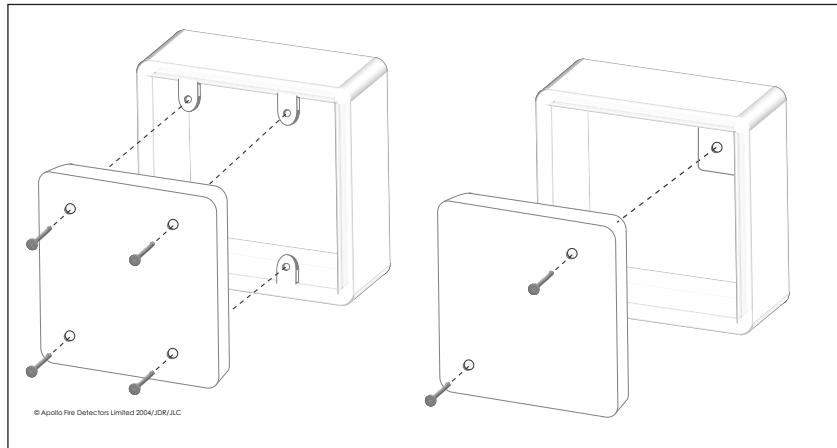

Fig. 1 - Mounting the XP95A Relay Output Module
2. Drill holes in the fascia plate corresponding to the holes on the mounting box selected (Fig. 1).